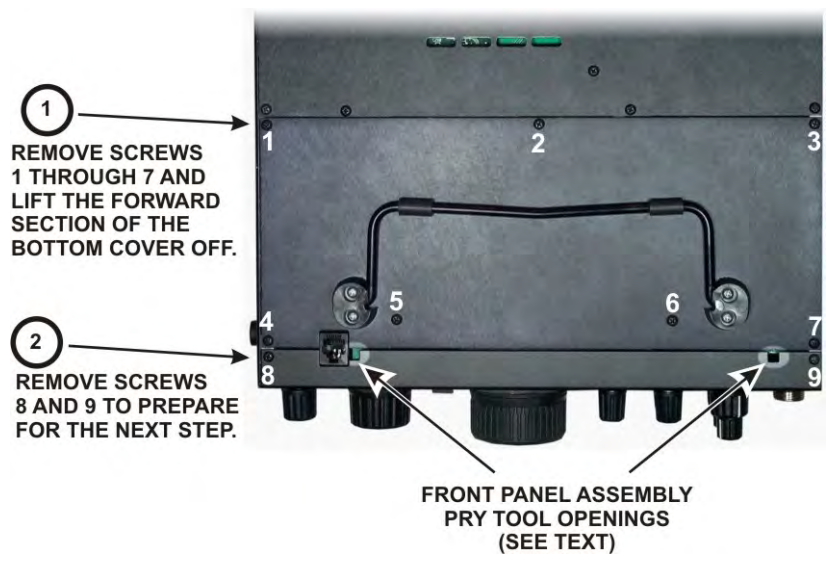

Figure 8. Removing Bottom Cover and Front Panel Screws.
Refer to Figure 8 and remove screws 1 through 7, then lift the forward section of the bottom cover off. Put it in a safe place to avoid scratches.
Refer to Figure 8 and remove screws 8 and 9.
- If the forward section of the bottom cover is not already off, remove it as shown in Figure 8 on page 13.
□ Replace the forward bottom cover using seven 3/16" (4.8 mm) black pan head screws (see Figure 8 on page 13).